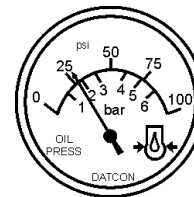

Figure 46. Oil Pressure Gauge
9. The engine oil pressure gauge (Figure 46) will indicate the oil pressure (kg/cm^2) of the engine. Under normal operating conditions the oil pressure is approximately 25 psi.